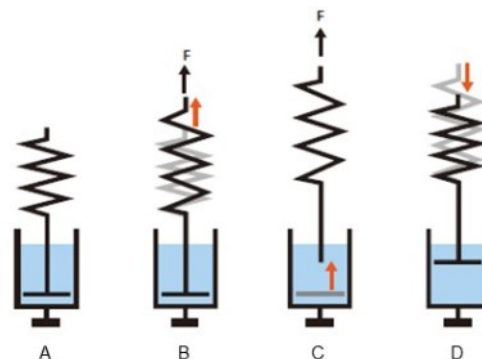

Figure 2: Dashpot-spring model
In Figure 2 the spring represents the elastic part and the dashpot represents the viscous portion in a viscoelastic system (A). When a constant force (F) is applied (B), the spring shows immediate deformation (stretching) up to a constant position proportional to the applied force. Further deflection under the constant force will then be seen as a movement of the piston (C). After the force is removed (D), the piston will remain deflected (cf viscous or loss modulus) whereas the spring will recover to its original position (elastic or storage modulus)